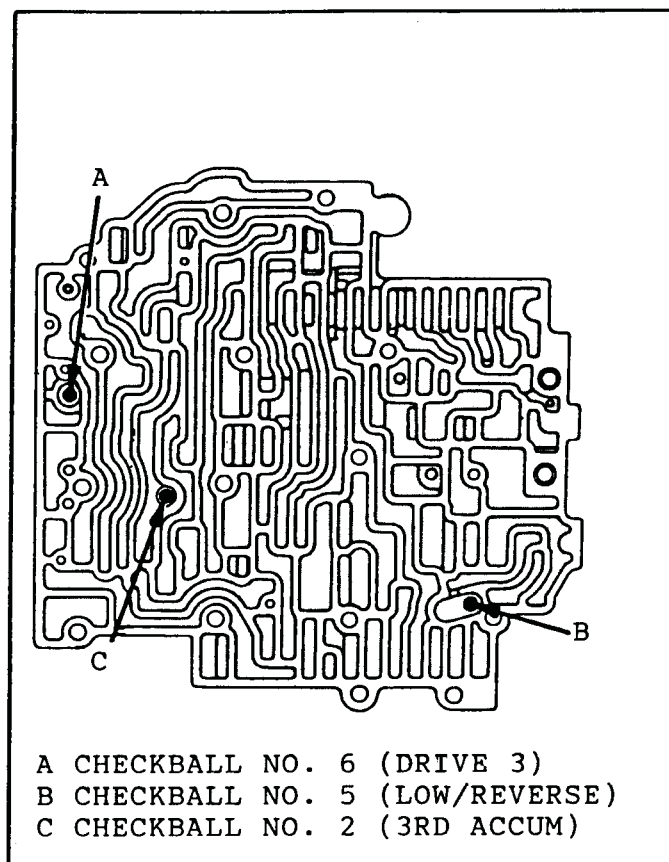

Figure 111
5. Install three (3) checkballs as shown in Figure 111, and retain with petrolatum.